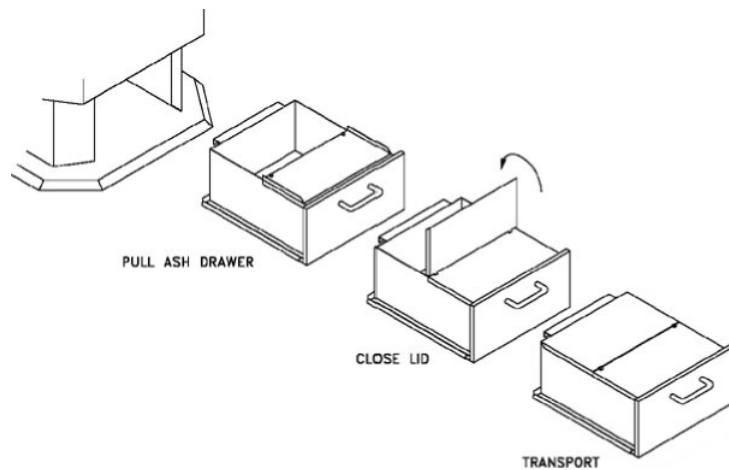

Figure 4: Ash removal
5. Cover the plug with the remaining ashes and continue operation of your stove as usual. The Ash Drawer is shown in Figure 4 and can be removed by pulling it out toward you. Lift the Ash Drawer slightly or the pedestal base may get scratched. Close the rear half of the Ash Drawer lid to prevent spillage. Ashes should be placed in a metal container with a tightly fitting lid. This closed container should be placed on a non-combustible floor or on the ground, well away from all combustible materials, pending final disposal. Ensure the rear half of the lid is open before replacing the Ash Drawer.